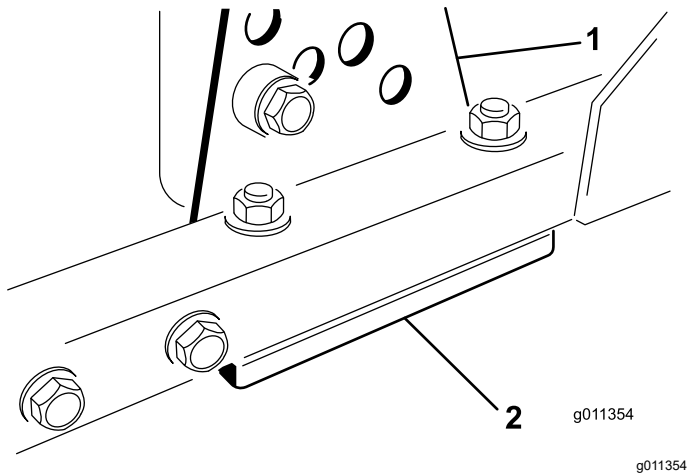

Figure 123
- Remove the height-of-cut bracket, (front, left, or right) from the cutting-unit frame (Figure 123).
- Adjust 1.5 mm (0.060 inch) shims and/or 0.7 mm (0.030 inch) shims between the cutting-unit frame and bracket to achieve the desired height setting (Figure 123).